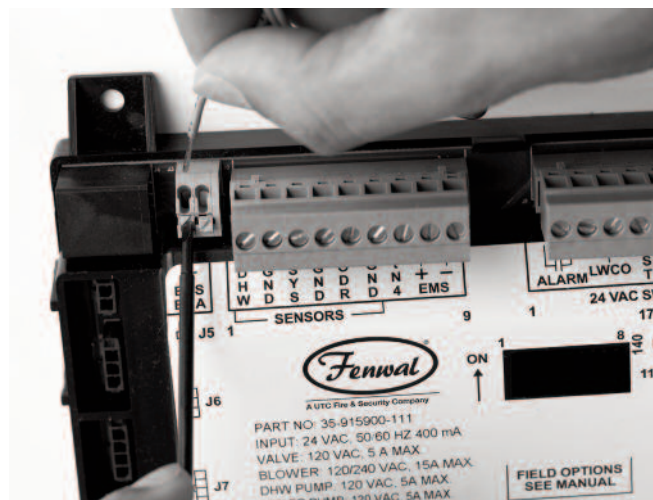

Fig. 23: FT_BUS Wire Connection
4. Connect the FT_BUS wires to the PIM by pressing down on the slots with a small screwdriver and then inserting the wires into the holes. See Fig. 23.